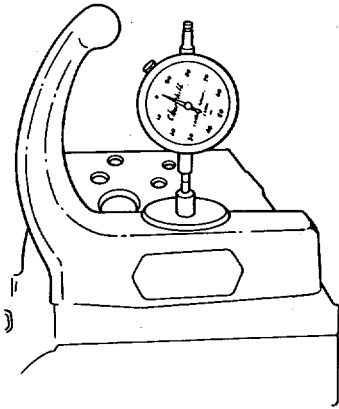

Figure 5-25. Checking new pistons.
- (12) Measure the piston height above the cylinder block top face with the particular piston at TDC. This piston height can be measured by a piston height gage as shown in Figure 5-25. Repeat for each new piston to be fitted and mark each piston with the number of the cylinder bore to which it will belong. Do not mark on the top as any marking here will be removed by the machining.